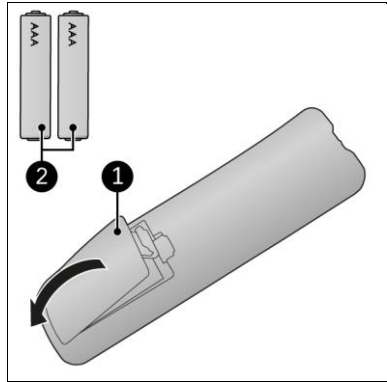

Figure 16
1. Remove the cover (Figure 16, pos. 1).
3. Insert two batteries (AAA 1.5 V) (Figure 16, pos. 2) as indicated in the battery compartment. Make sure to insert the batteries correctly.